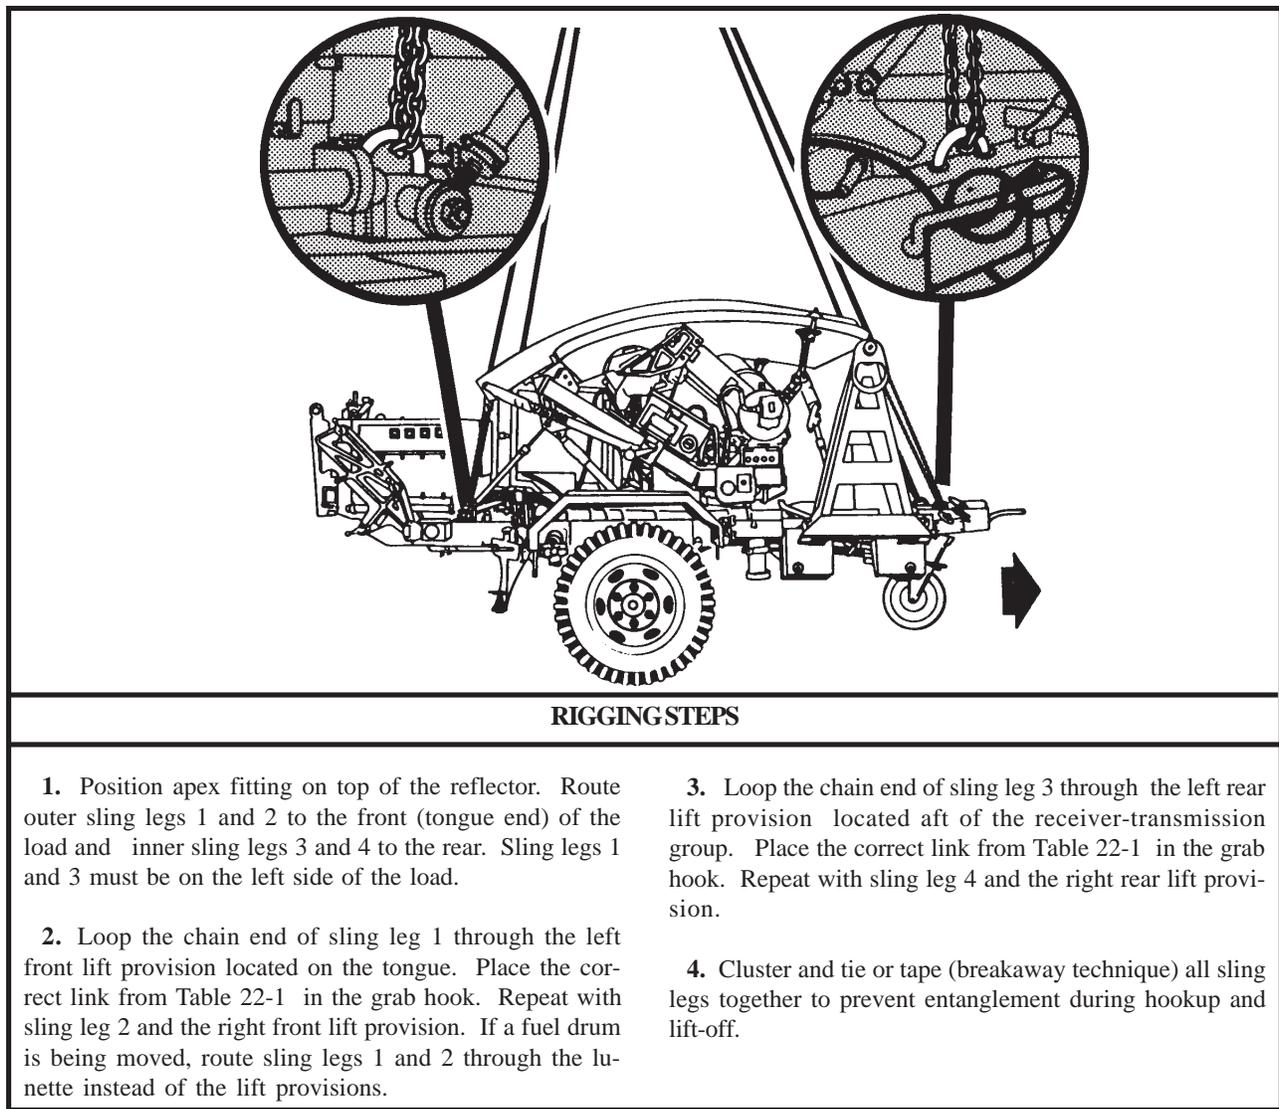

Figure 22-1. AN/MPQ-4A Radar Set
(2) **Rigging.** Rig the load according to the steps in Figure 22-1.
(4) **Derigging.** Derigging is the reverse of the preparation and rigging procedures in steps d (1) and d (2).